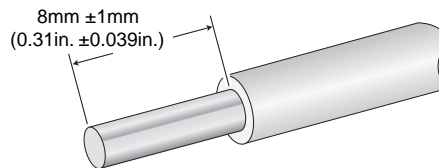

Figure 17. Stripped Wire
3. With a 14-gauge wire-stripping tool, strip the three wires in the tray cable coming from the DC input power source to 8 millimeters \pm 1 millimeters (0.31 inches \pm 0.039 inches), as shown in Figure 17.